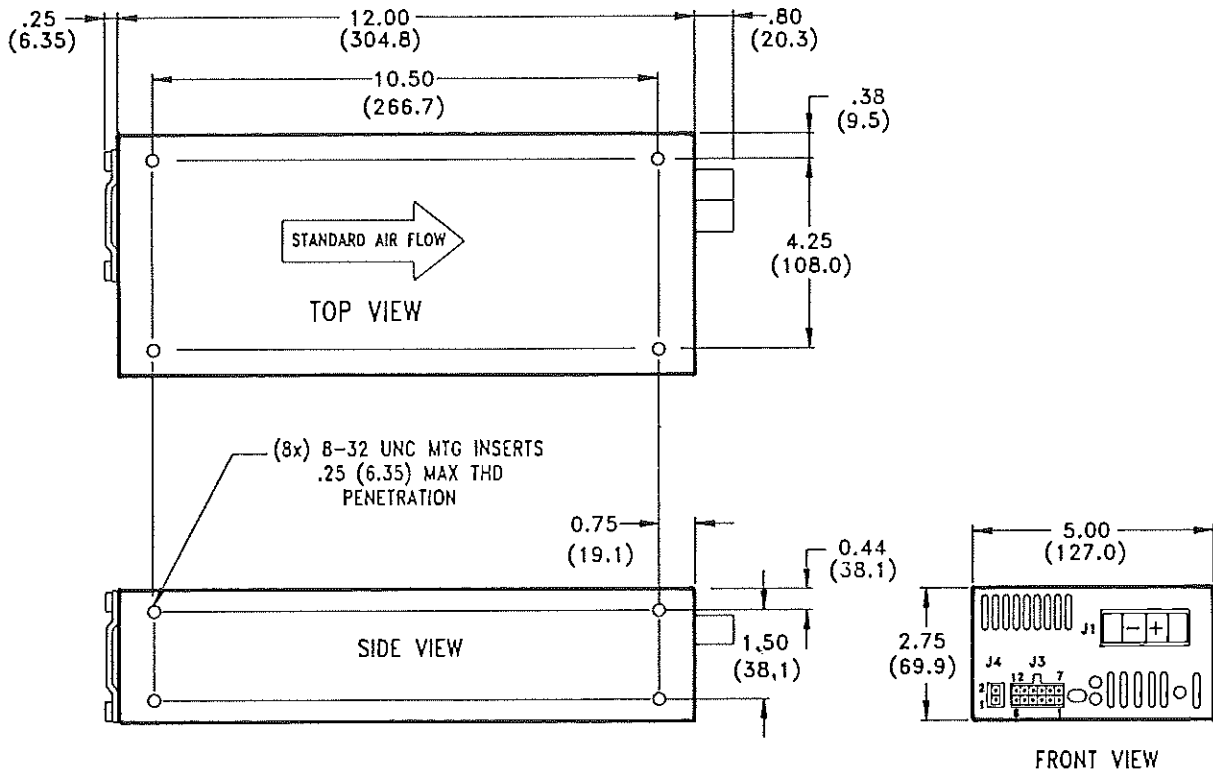

Figure 12. Battery-Backup Unit Mechanical Dimensions
- 21.1 **Mounting.** See mechanical dimensions diagram, Fig. 12. The Battery-Backup Unit has two mounting surfaces, one on the top and the other on the side. There are four threaded inserts on the top and four on the side. The inserts accept no. 8-32 screws with maximum penetration of 0.25 inch (6.4mm). Maximum torque on these screws is 19 in.-lbs.